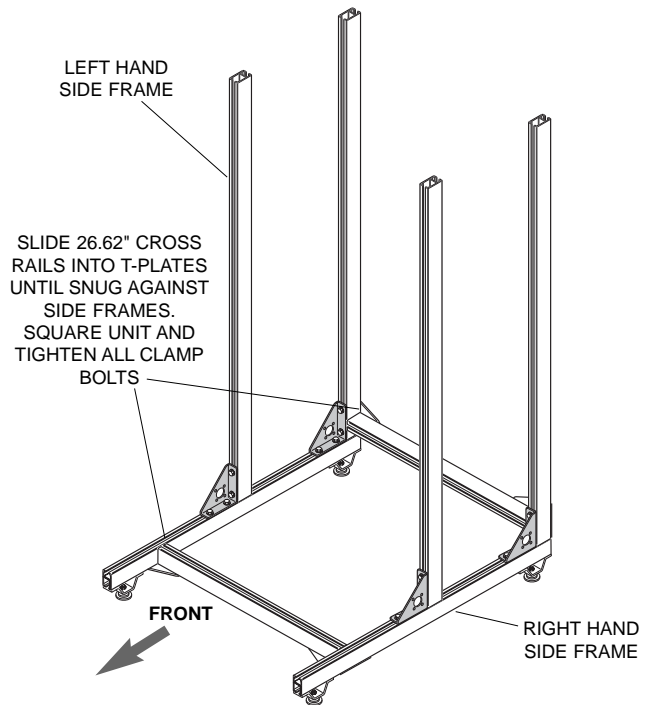

Figure 5.
5. Stand left hand side frame with cross rails upright (Fig. 5). Assemble cross rails to right hand side frame. Square completed assembly and securely tighten clamp bolts.